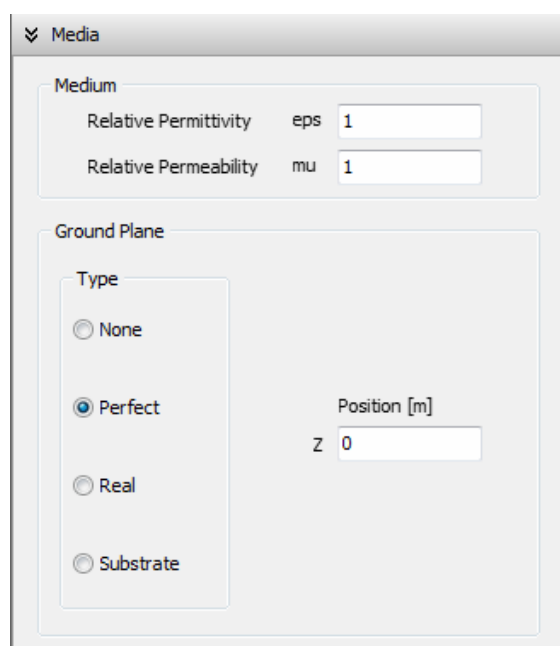

Fig. 10.1: Perfect option in the Ground plane box of the Media panel. The ground plane position is given by the value of Z.
3. Check the **Perfect** option in the Ground Plane box, Fig. 10.1.